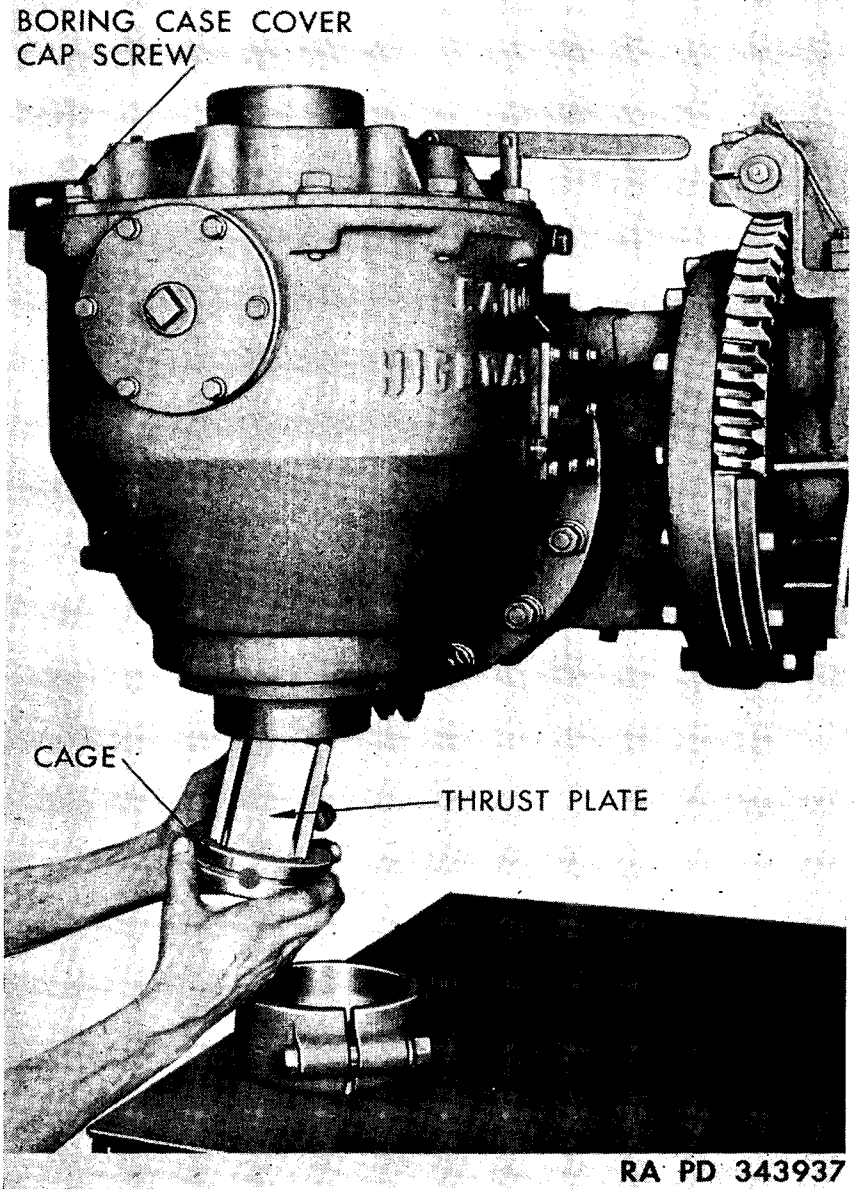
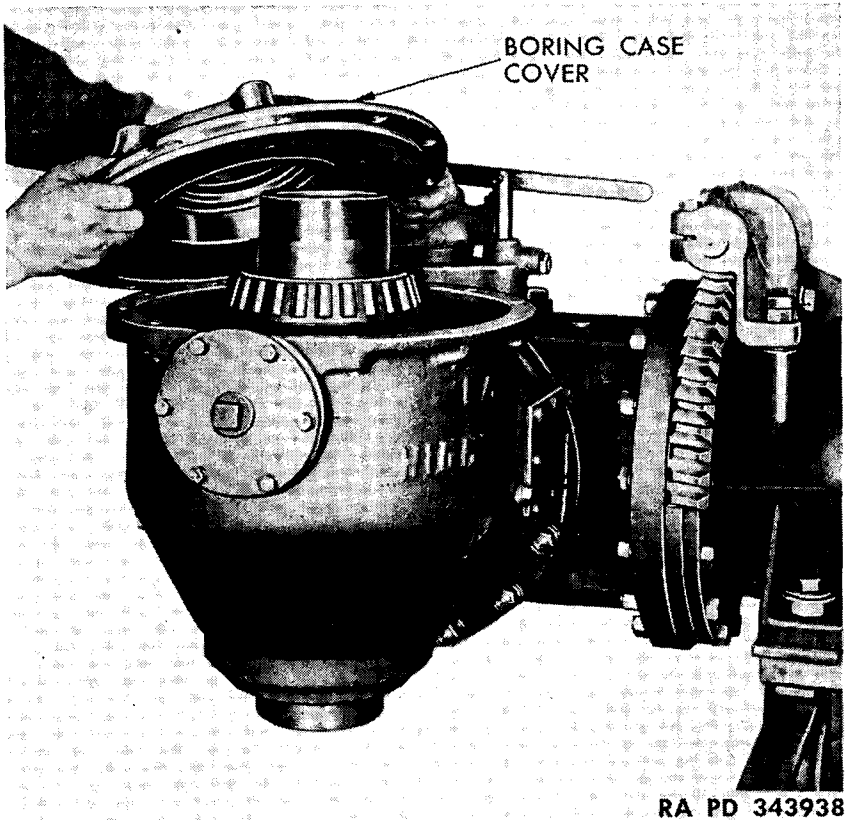

Figure 76—Removing Lower Thrust Plates and Cage
Figure 77—Removing Boring Case Cover
(6) **LOWER THRUST PLATES AND CAGE** (fig. 76). Drop cage and plates from end of boring head.
(7) **BORING CASE COVER** (fig. 77). Remove boring case cover cap screws (fig. 76), and lift cover off boring case.
(5) When proper mesh has been obtained, remove assembly from case and install the balance of the gear attaching screws. Tighten cap screws securely and lock them with tie wire.
(6) Install shims and upper bearing cone in boring head. (See fig. 82.) Reinstall boring head in case, and assemble boring case cover (fig. 77) with three cap screws equally spaced to determine the adjustment of upper boring head bearing cone. There should be no end play of the boring head assembly in the boring case. However, do not adjust so snugly as to cause injury to the bearing cones. If necessary to make adjustments, add or remove upper bearing shims (fig. 81) to eliminate end play. Remove boring head from case for further subassembly.
(7) Assemble rack pinion shaft on boring head, and install rack pinion bearings and rack pinion in position to assemble felt retainers, then drive rack pinion into its operating position. Install bearing cap on end of rack pinion shaft; assemble rack pinion shaft nut and secure with cotter pin. Tighten felt retainer set screw.
(2) **BORING CASE COVER.** Install boring case cover (fig. 77) and secure with cap screws.
(3) **UPPER OIL SEAL.** Install oil seal in upper end of boring case as outlined in a (10) above.
(4) **LOWER OIL SEAL.** Install oil seal in lower end of boring case as outlined in a (10) above.
(5) **LOWER THRUST PLATES AND CAGE.** Install lower thrust plates and cage. (See fig. 76.)